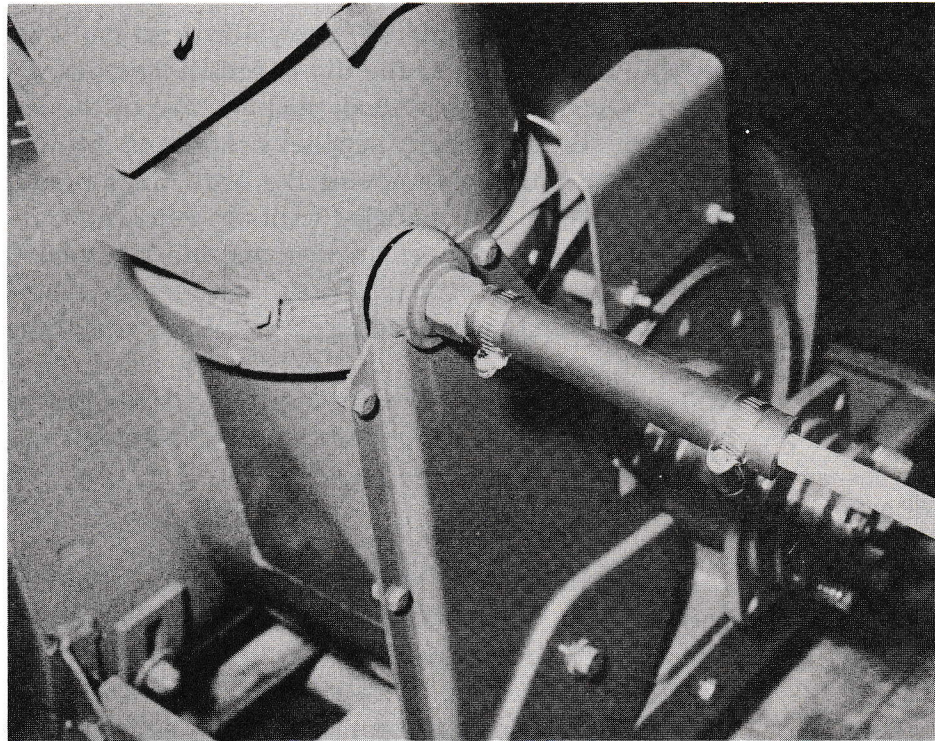

Figure 1
The Snowblower Drive housing mounts to the front of the tractor with four bolts, the same as other Gravelly power Attachments. When attaching to the Model 'L' Tractor, the chute control crank should be attached to the top sprocket housing shaft of the Snowblower with the rubber connector and two (2) clamps which are provided. See Figure 1.